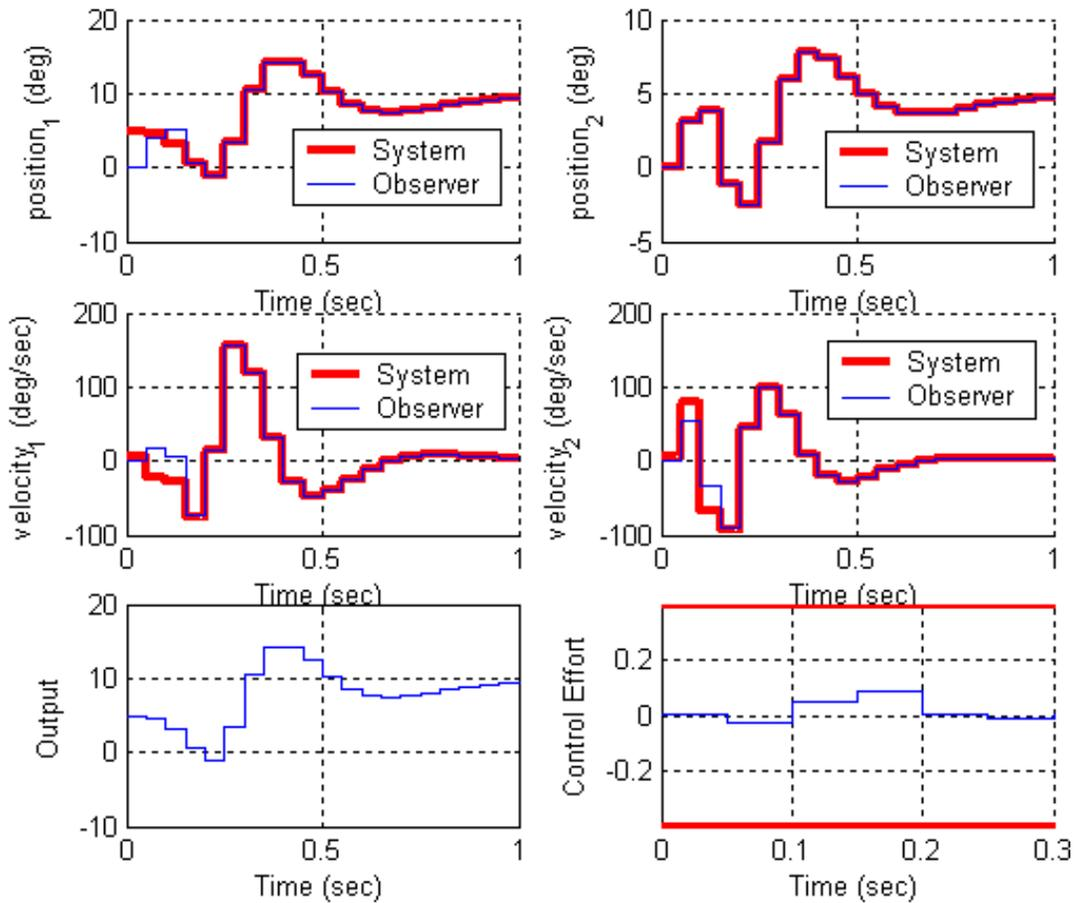

Figure 7. Results for problem **3b**.
b) Assume the only known state is the position of the second disk, and the output is the position of the first disk. Use a sampling interval of 0.05 seconds, assume all the state feedback poles are at 0.5, and the observer poles are at $[0.01 \ 0.015 \ 0.02 \ 0.025]$. Also assume the system initially starts with disk 2 at zero degrees, disk 1 at 5 degrees, and both disks with an initial velocity of 5 degrees/sec (be careful of units here! The model works in radians.). The initial estimate of the delayed input signal is zero. The initial estimates of the observer are zero. For a 10 degree step input you should get the graph shown in Figure 7. Turn in your plot.